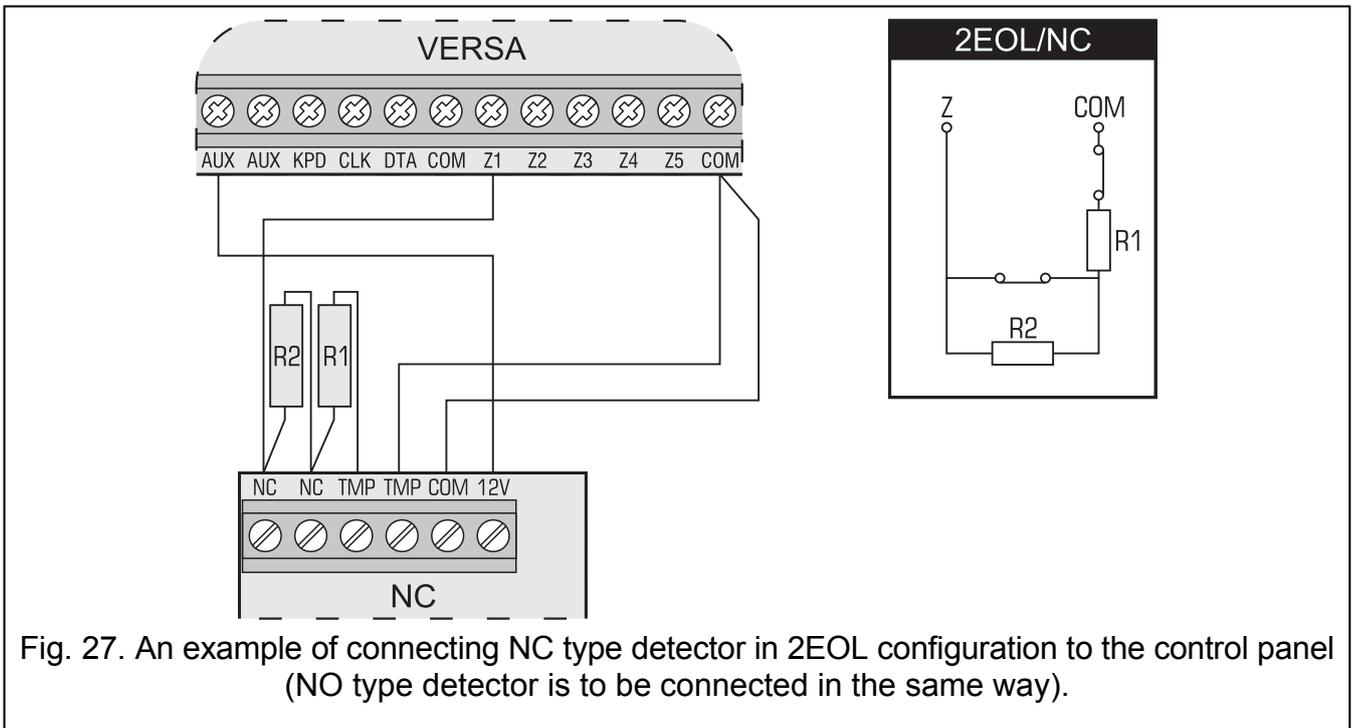

Fig. 27. An example of connecting NC type detector in 2EOL configuration to the control panel (NO type detector is to be connected in the same way).
- on the control panel mainboard – value of the R1, R2 resistors is programmed individually for 2EOL wiring type (see Fig. 27). Value of the resistor for EOL wiring type is the sum of values programmed as R1 and R2.
- **version 4.00** – value of the R1, R2 resistors for 2EOL wiring type (see Fig. 27). Value of the resistor for EOL wiring type is the sum of values programmed as R1 and R2.